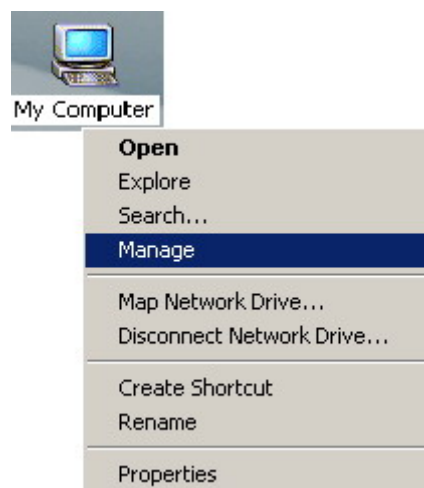

Figure A-7: Manage Option
-  **Step 8.** On the Windows desktop, right-click on the **My Computer** icon and then select the **Manage** option. (See **Figure A-7**) A **Computer Management** window will be opened.